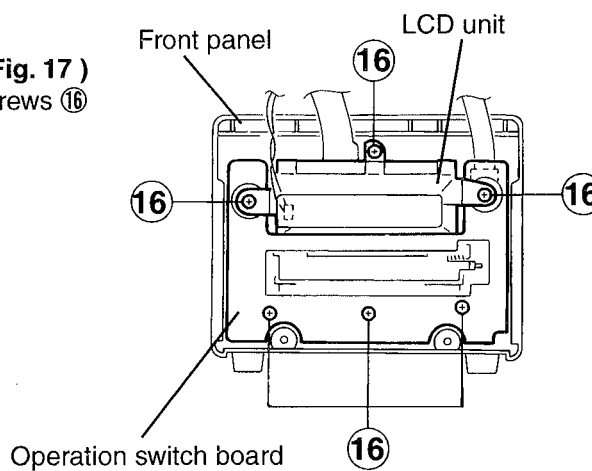

Fig.17
■ Removing the Operation switch board (See Fig. 17)
- From the inside of front panel, remove the six screws ⑯ retaining the operation switch board.